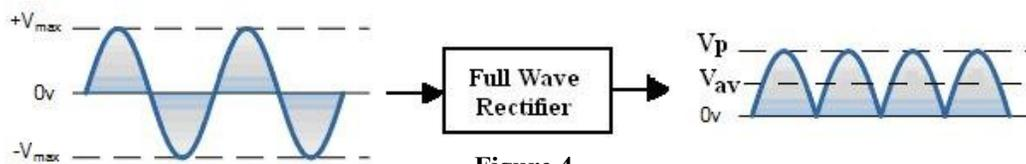

Figure 4
b) Full-Wave Rectifier (FWR) uses a diode bridge which consists of four diodes; two of them conduct in each half cycle of the input signal. As the input signal flips back and forth, the diodes allow the current to flow in the same direction as shown in Figure 4. The maximum output voltage of the rectified unfiltered signal ($V_P(FWR)$) can be found by: